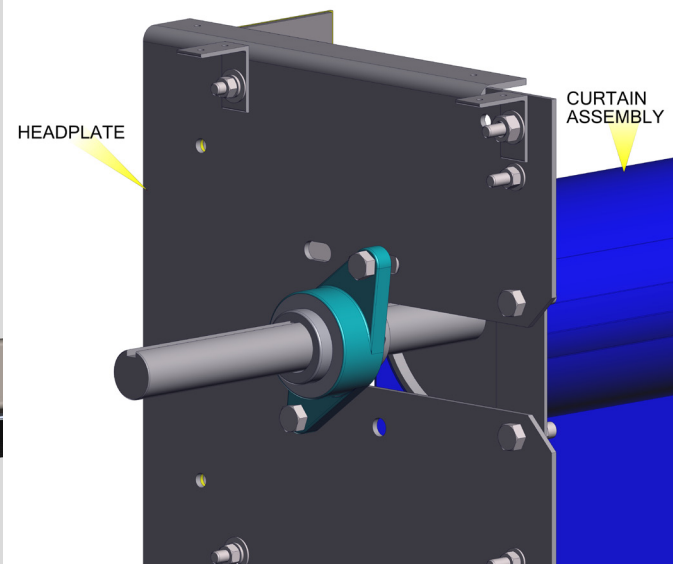

Figure 10
- Before removing the forklift or supporting equipment, reinstall the bearings by sliding them onto the shaft and attaching them to the headplates. Also reinstall the shaft gates to the headplates. See **Figure 10**.